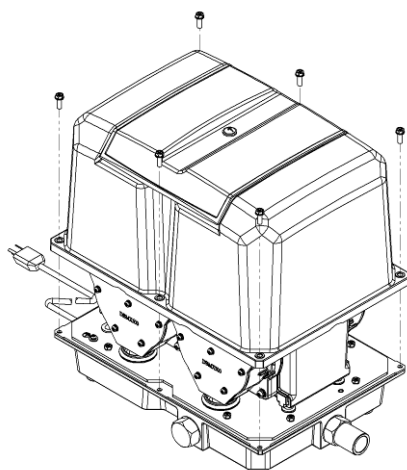

Figure 2
- A. Loosen the six screws around the aluminum upper housing, and take the housing off. (As shown in figure 2)